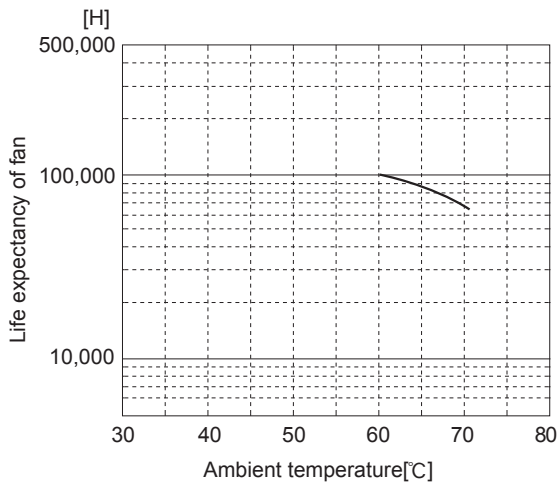

Fig.7.1 Life expectancy of long-lived fan
- Differences from standard versions are summarized in Fig.7.1 (Life expectancy of fan).